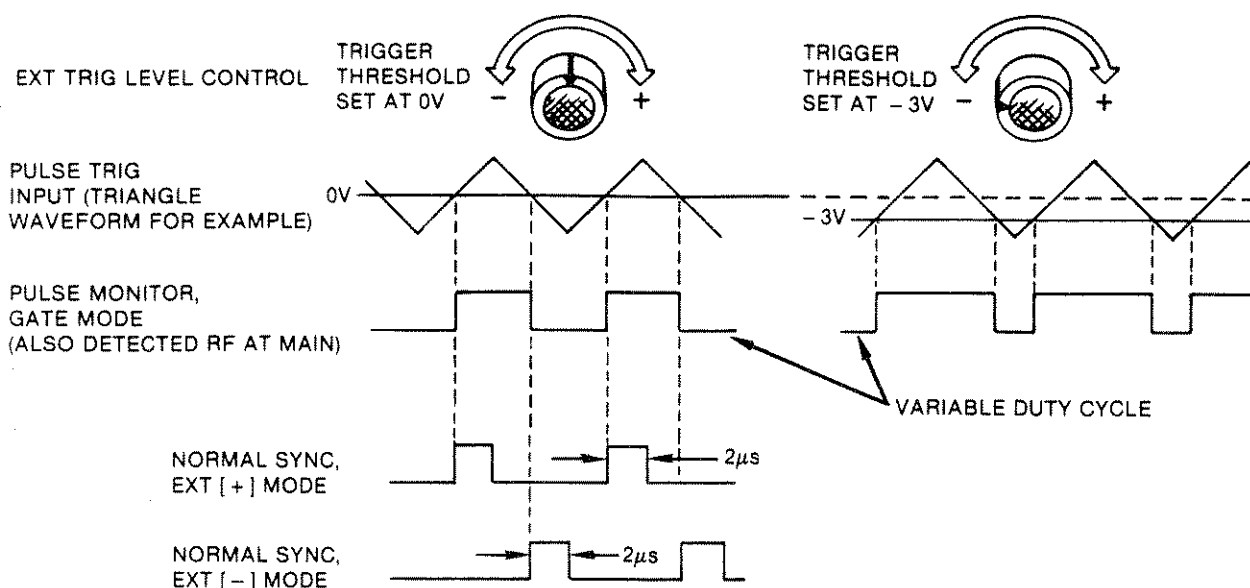

Figure 3-3. Effect of External Trigger Level Control
(2) Ref: Figure 3-3
**27 EXT TRIG LEVEL Knob** — Determines the threshold voltage of the input waveform **26** which will trigger the delay and width or external gate circuitry( $\pm 14\text{V}$  range). See Figure 3-3.